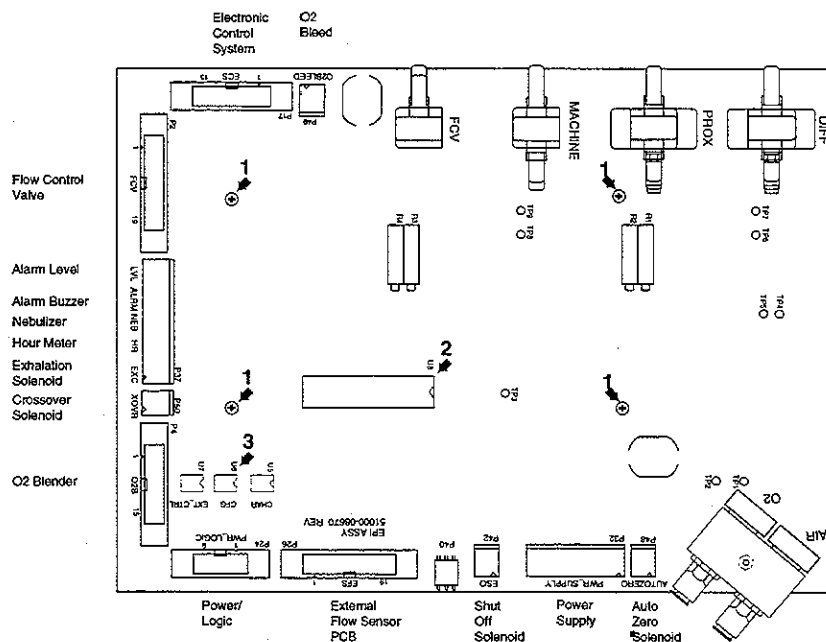

Figure 8-2
4. Remove the four mounting screws from the EPI PCB (Figure 8-2, Ref. 1).
5. Remove the MPU, U8 (Figure 8-2, Ref. 2), and the CFG EPROM, U6 (Figure 8-2, Ref. 3), and place them in the replacement EPI PCB, being sure of proper orientation.